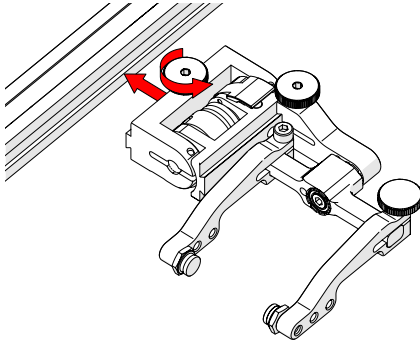

Fig. 65 - Attach to frame bar
1. Rotate the probe holder adjustment knob and attach probe holder to a frame bar (Fig. 65).